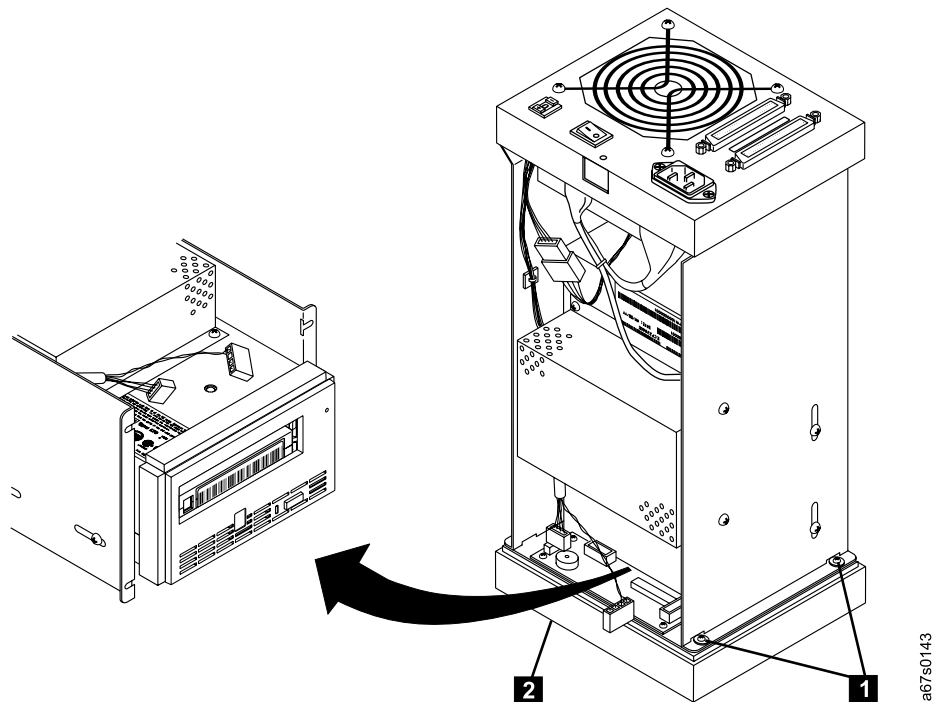

Figure 24. Removing the bezel from the 3580 Tape Drive
- c. Place the 3580 Tape Drive on its face (bezel side down) and use a Phillips screwdriver to remove the four bezel screws and washers (two on each side) (see **1** in Figure 24).